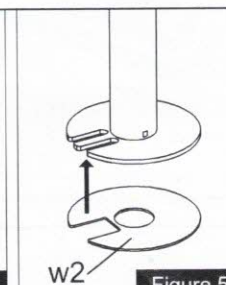

Figure 5
2. Attach Soft Pad(w2) to the Grommet Base Plate(m), see Figure 5.